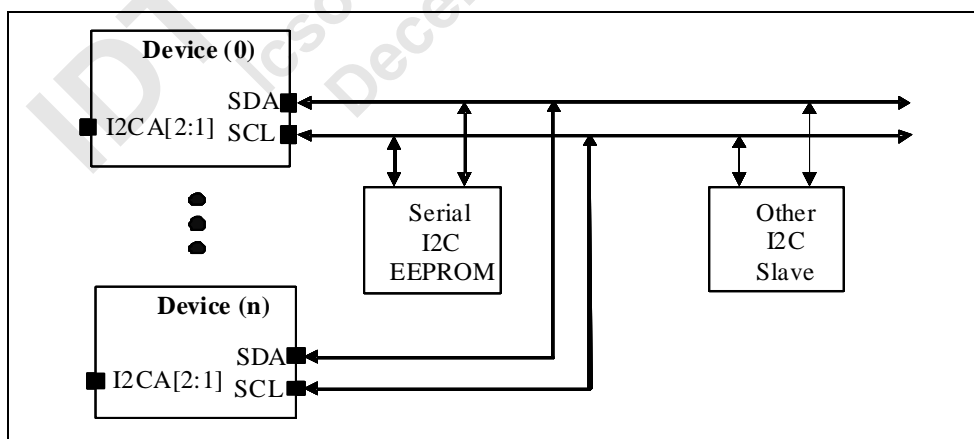
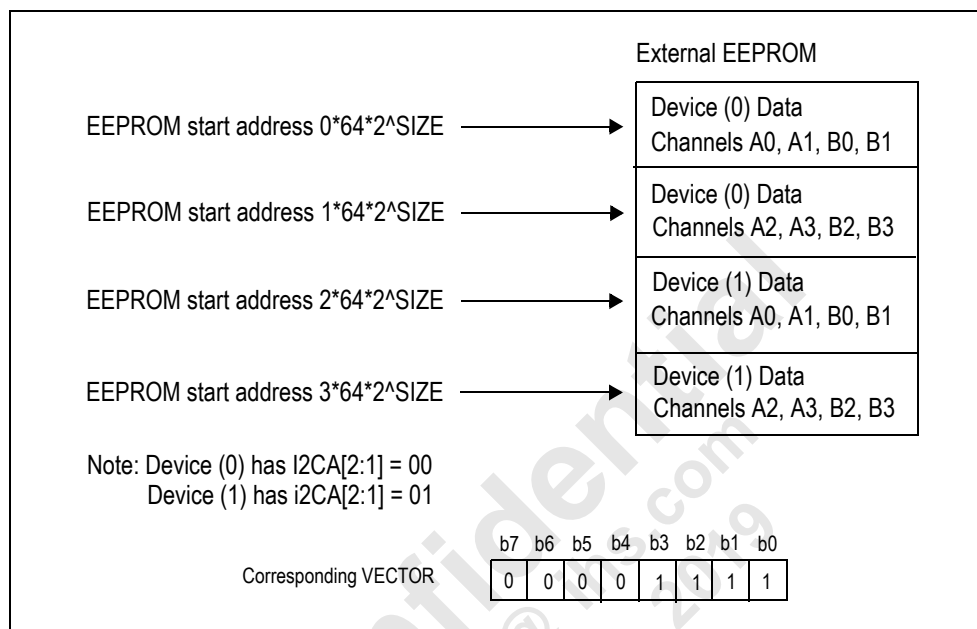

Figure 16 Multiple P0608Rs Implementation
Figure 17 EEPROM Start Address
Figure 16 shows an example of a shared mode implementation where multiple P0608Rs are connected on the I2C bus. This allows a single EEPROM to be shared across all P0608Rs in the system. In this configuration, P0608R(0) = I2CA[2:1] = 0 is the only master on the bus. There must be a P0608R(0) in shared mode, otherwise download behavior is undefined. P0608R(0) is responsible for reading all initialization data for all devices from the external EEPROM. As the master P0608R device reads the configuration data from EEPROM, the other P0608Rs connected to the bus will only listen to the initialization data and extract and apply register configuration data relevant to them. Each slave device can recognize its portion of configuration data stored in EEPROM, because EEPROM mapping is based on a slave address as shown in Figure 17.
The P0608R master begins reading bytes starting at serial EEPROM address zero. The content of bytes starting from EEPROM address 0 must define the value in the P0608R EEPROM Control Register settings (register offset = 16h, SIZE and VECTOR fields, see Table 16 for details). The P0608R EEPROM Control Register is used to set up the EEPROM start addresses for each P0608R and to define which P0608R I2C addresses are present via SIZE and VECTOR. Refer to Figure 17. The EEPROM Control Register can only be set up in EEPROM via single double-word format
The P0608R contains 8 channels and each EEPROM-initialized configuration register needs to be defined two times in EEPROM: once for A0, A1, B0, B1 channels, and once for A2, A3, B2, B3 channels. Refer to Figure 17 showing the mapping of 8 channels in EEPROM space.
- Configuration-done format: must be placed right after configuration space used by the formats described above. If there are multiple P0608R devices, the configuration-done format also needs to be placed multiple times, once for every block shown in the example in Figure 17.